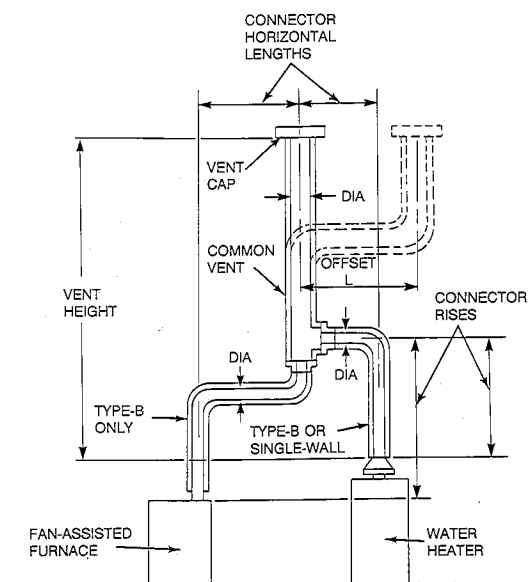

Figure 1—Use With Tables 1 and 2
4. A vent or chimney may be offset as noted in the table below and as shown in Figure 1, 2, 6, 7, or 8.
NOTE: Use as shown in Figures 1, 2, 5, 6, 7, and 8.